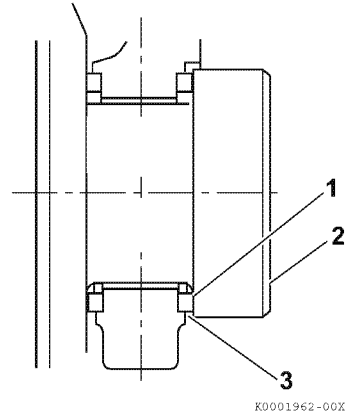

Figure 6-53
- **Method B:** Use a feeler gauge to measure the clearance (**Figure 6-53, (3)**) between the thrust bearing (**Figure 6-53, (1)**) and crankshaft (**Figure 6-53, (2)**). Record the measurement. See *Thrust Bearing on page 6-7 for the service limit.*